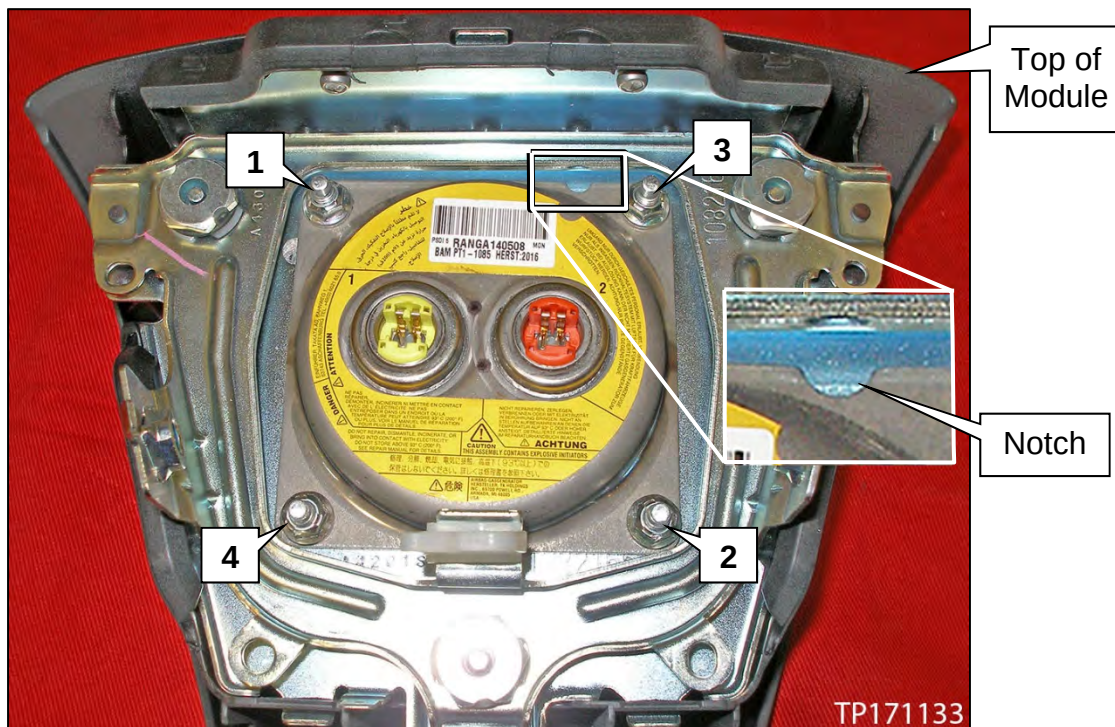

Figure 10
- Make sure the inflator is installed with the notch positioned where shown in Figure 10.
- Torque the nuts in the sequence shown in Figure 10.